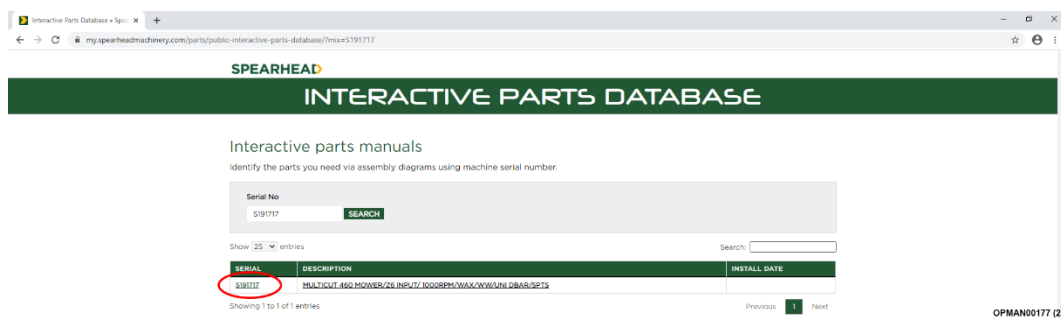

Figure 24 – Click On Serial Number
7.1.1.2 After entering the serial number a specification for the machine will appear. Click on the serial number; see Figure 24.